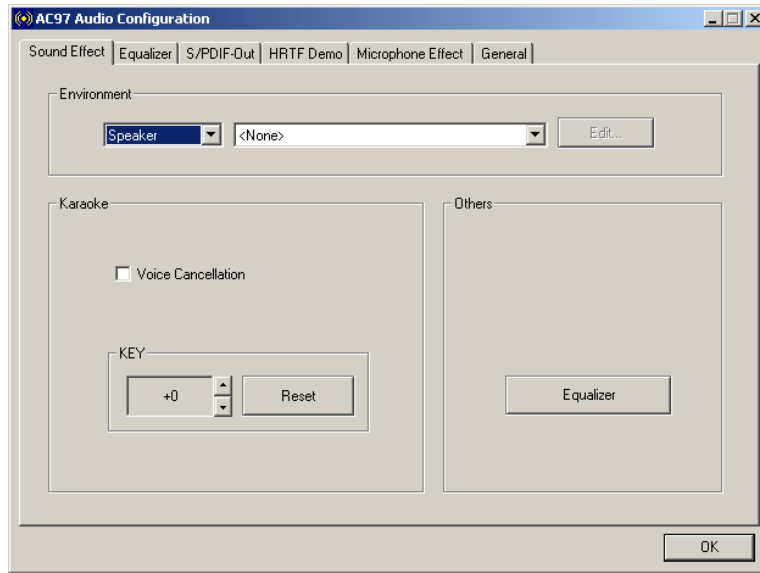

Figure D-3: Sound Effects Manager (ALC655)
Step 3: The sound effect manager appears (Figure D-3).
The Sound Effect Manager shown in Figure D-3 is for the RealTek ALC655 audio CODEC. Different CODECs may have different sound manager appearances.
The **Sound Effects Manager** enables configuration of the items listed below. To configure these items click the corresponding menu tab in the **Sound Effects Manager** (Figure D-3).